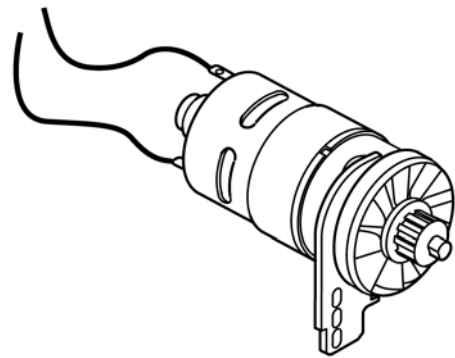

Fig. 102
- Remove both of the motor's power cables (fig. 102).
- Attach both power cables, paying attention to the plus signs (fig. 102).